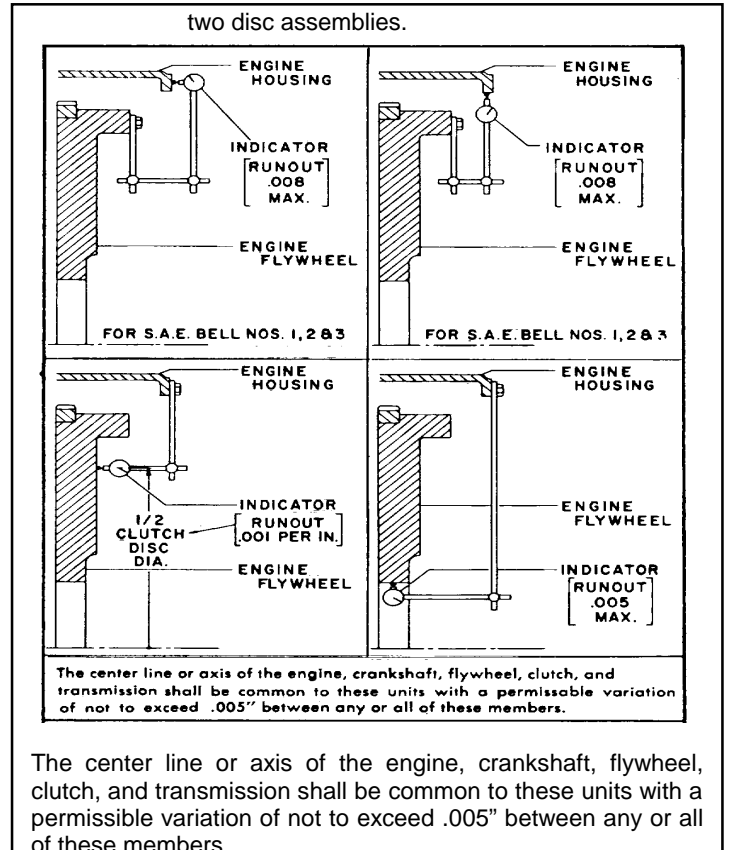

Fig. 1 Checking for Misalignment
- (1) Scoring, heat cracks and taper. Resurface if sufficient stock is available or replace.
- (2) Inspect for correct depth, 1.093" (+.005").
- (3) Check bolt hole counterbores.
- (4) Check clutch pilot rim for galling.
- (5) Check drive pin condition and alignment with tool.
- (6) Check alignment with housing and vice-versa (see Fig. 1).